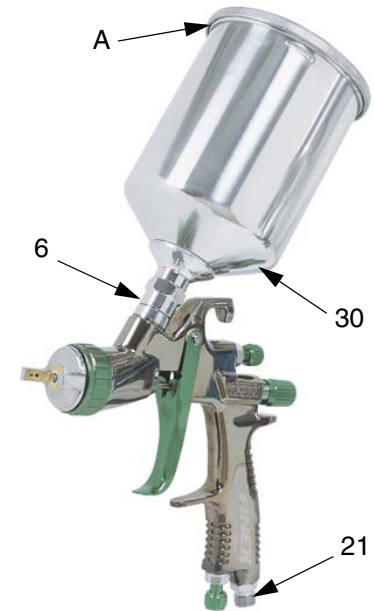

FIG. 1
4. Connect air supply line to gun air inlet (21). FIG. 1. Connect other end to shutoff valve.
5. Install fluid filter (29) into fluid inlet (6). Refer to page 6.
6. Screw on gravity cup (30).
7. Remove gravity cup cover (A) and fill cup with solvent to flush if this is first time using equipment.